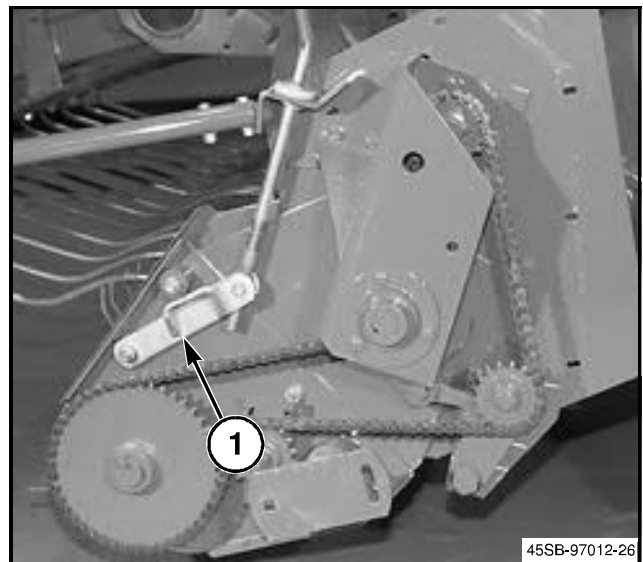

FIG. 10
FIG. 10: The pickup height adjustment strap (1) controls the height of the tines above the ground. Set tine height according to instructions in the Adjustments Section.